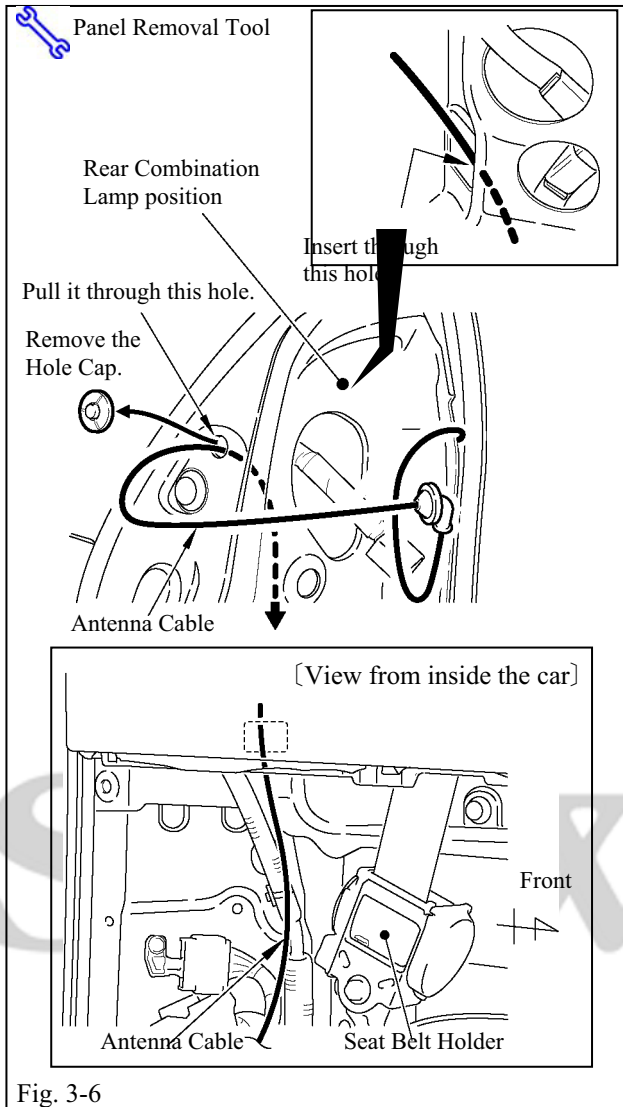

Fig. 3-6
(e) Run the antenna cable into the luggage compartment (Fig. 3-6).
- (1) The antenna cable should be routed through the Hole with the cap as shown (Fig. 3-6).
- (2) The antenna cable should then be routed through the same hole as the tail lamp harness and into the luggage compartment (Fig. 3-6).